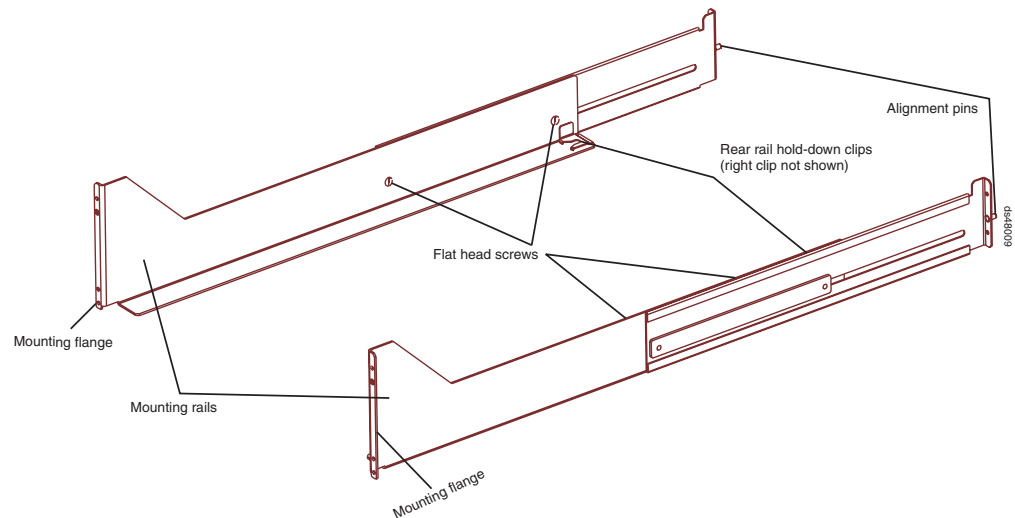

Figure 14. DS4800 support rail assembly
Figure 14 on page 35 shows the support rail assembly for the DS4800.
Note: Refer to Figure 14 while performing these steps.
6. Starting with the left rail, use a medium flat-blade screwdriver to loosen the two flat-head rail adjustment screws. See Figure 14 on page 35.
Attention: When you slide the storage subsystem into the cabinet, verify that the back of the DS4800 Storage Subsystem is secured by the hold-down clips located at the back of each rail. With the M5 rail screws loosely threaded, you can make minor adjustments to the rails to ensure that the subsystem latches in the hold-down clips. The hold-down clips are shown in Figure 14 on page 35.